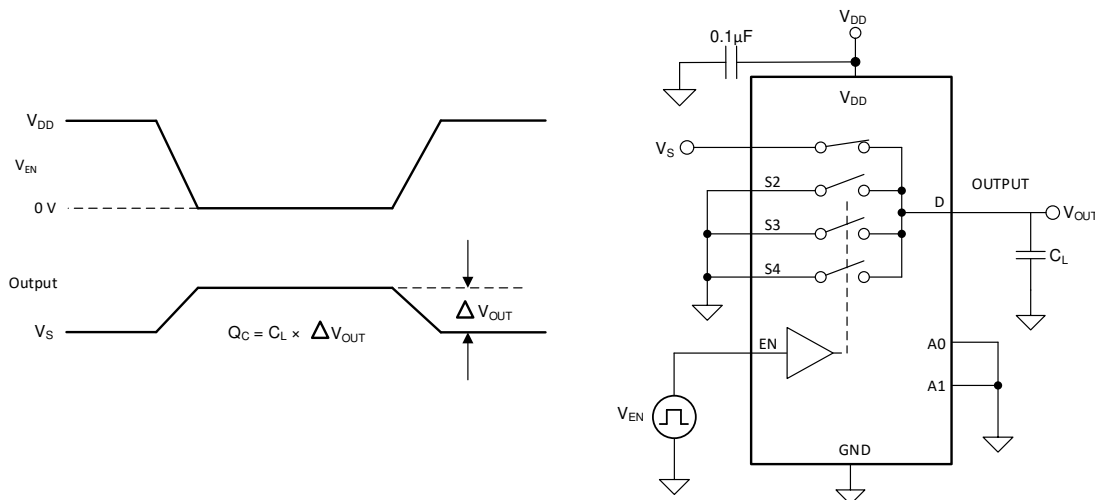

Figure 13. Charge-Injection Measurement Setup
The TMUX1204 has a transmission-gate topology. Any mismatch in capacitance between the NMOS and PMOS transistors results in a charge injected into the drain or source during the falling or rising edge of the gate signal. The amount of charge injected into the source or drain of the device is known as charge injection, and is denoted by the symbol  $Q_C$ . Figure 13 shows the setup used to measure charge injection from source (Sx) to drain (D).